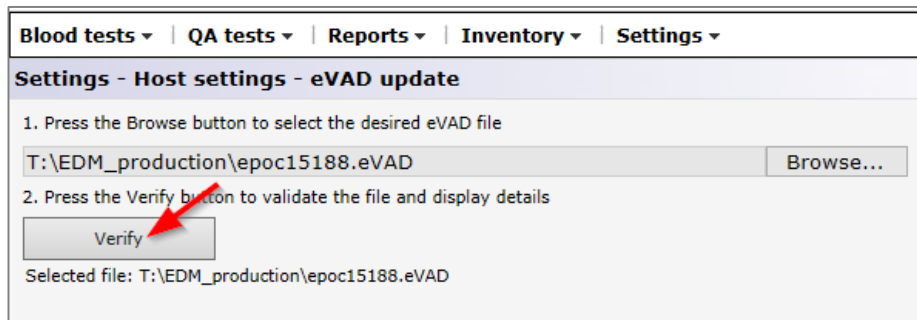
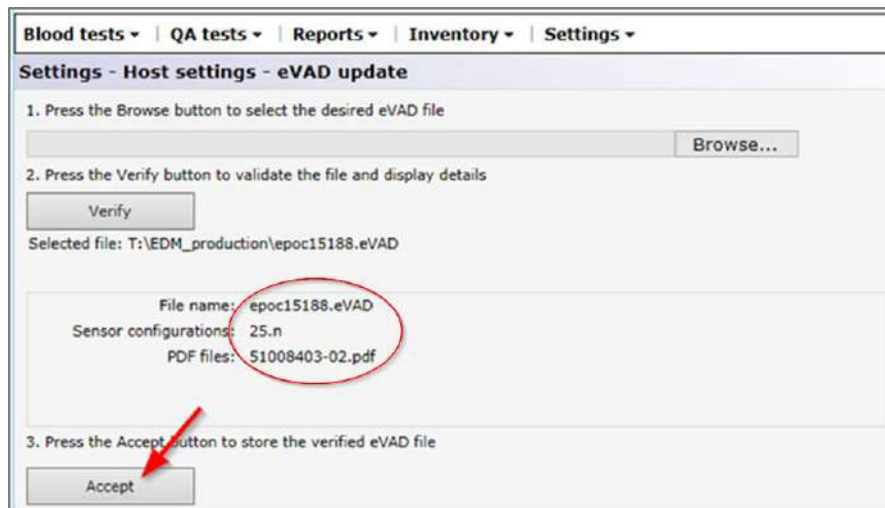

Fig. 8.
Fig. 9.
- 2) Press the **Verify** button (Fig. 8) to validate the eVAD file and display details (circled in Fig. 9) including the eVAD filename, Sensor Configuration version, and the PDF file name associated with the eVAD file used.
- 3) Press the **Accept** button (Fig. 9) to store the verified eVAD file.